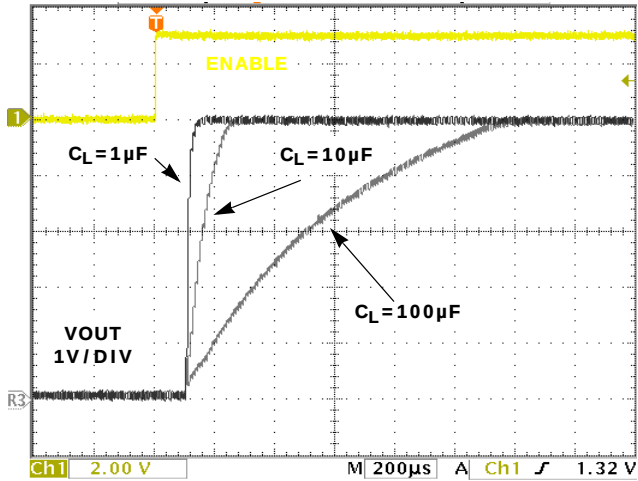

FIGURE 11. V_{OUT} TURN-ON/RISE TIME vs C_{LOAD} .
The ISL6185 is a dual channel fully independent overcurrent (OC) fault protection IC for the +2.5V to +5V environment. Each ISL6185 incorporates in a single package two 85mΩ P-channel MOSFET power switches for power control. Independent enabling inputs and fault reporting outputs compatible with 2.5V to 5V logic allows for external control and reporting. This device features integrated power switches with current monitoring, accurate current limiting, reverse bias protection and current limited timed delay to turn-off for system reliability. See Figures 11 through 26 for typical operational waveforms including both under and overcurrent situations.
Upon proper bias and of the evaluation platform and correct enabling of the IC the ISL6185 will have a nominal $V_{IN}/10\Omega$ load current passing through each enabled switch which is below the continuous current rating. See Figures 11 and 12 for typical ISL6185 turn-on and off waveforms.